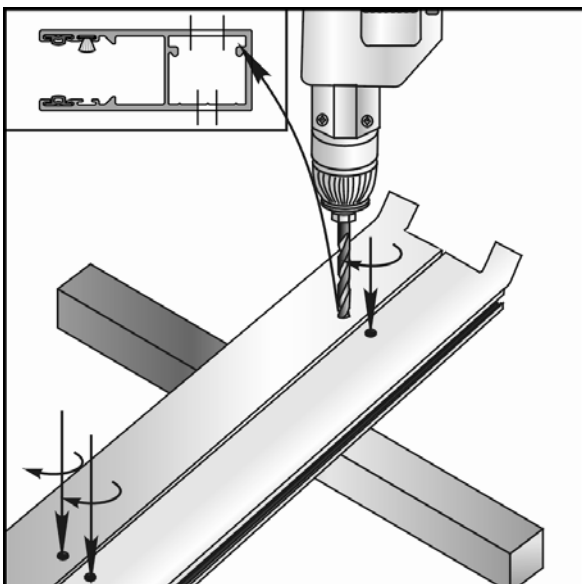
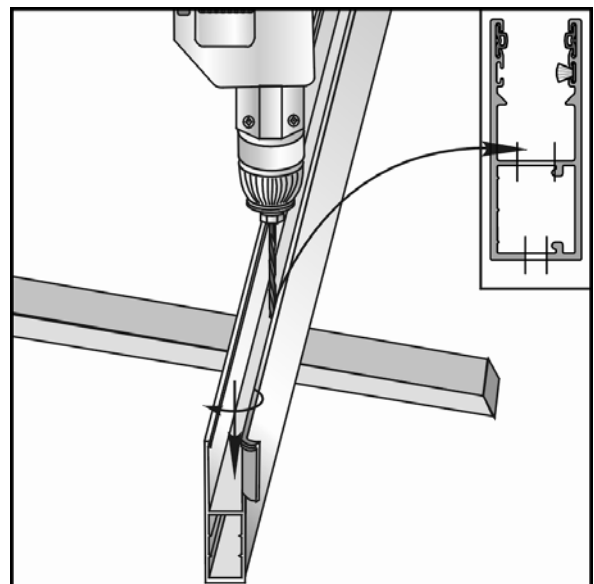

Fig. 2.5
Fig. 2.6
4. For the front mounting, drill the holes on the front face of the guide rail for $\varnothing 11.8$ mm plugs (*fig. 2.5*). For the built-in mounting, drill the $\varnothing 11.8$ mm hole in the internal guide rail's wall (*fig. 2.6*).